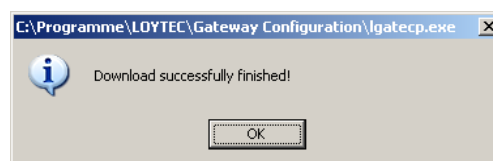

Figure 253: FTP download success dialog.
8. Observe the download progress. When the download is complete, the dialog shown in Figure 253 appears.